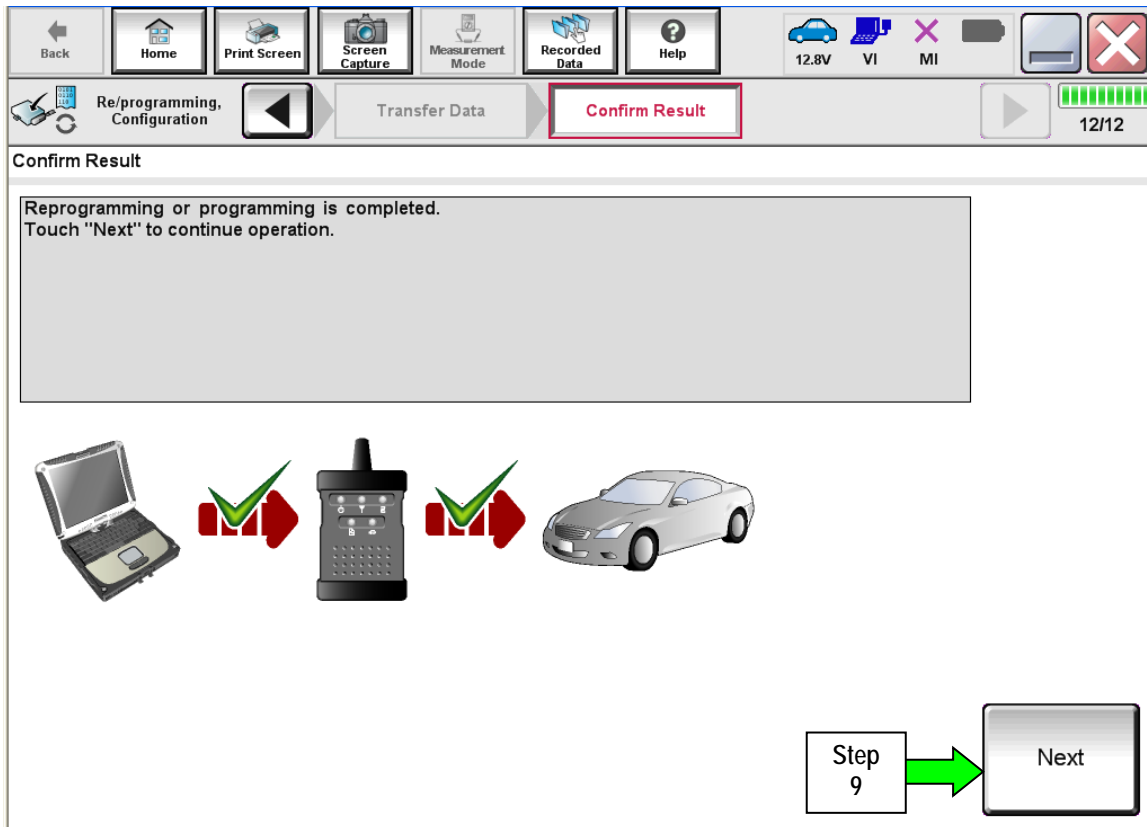

Figure 5
8. When the screen in Figure 5 displays, reprogramming is complete.
NOTE: If the screen in Figure 5 does not display (indicating that reprogramming did not complete), refer to ECM Recovery on the next page.